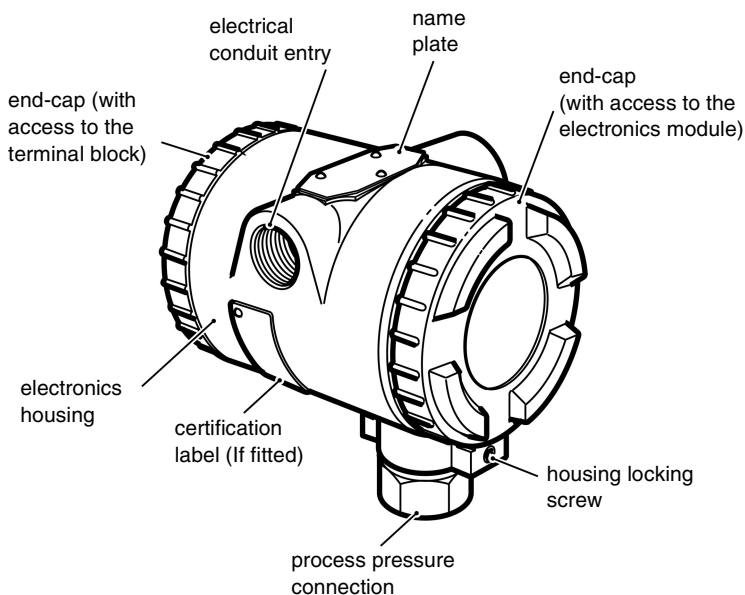

Figure 1-1: General view
1.2 About the Electronics Housing (Figure 1-1)